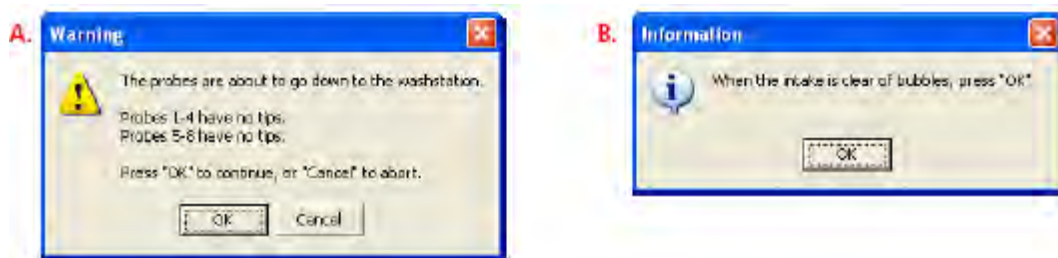

Figure 11 Prompts displayed for priming the Span-8 Pod fluidic lines.
- a. The warning prompt in Figure 11 (image A) is displayed, confirm that no tips are loaded in the Span-8 Pod, and click **OK**.
The lines for the Span-8 tips are primed and the next prompt shown in Figure 11 (image B) is displayed.